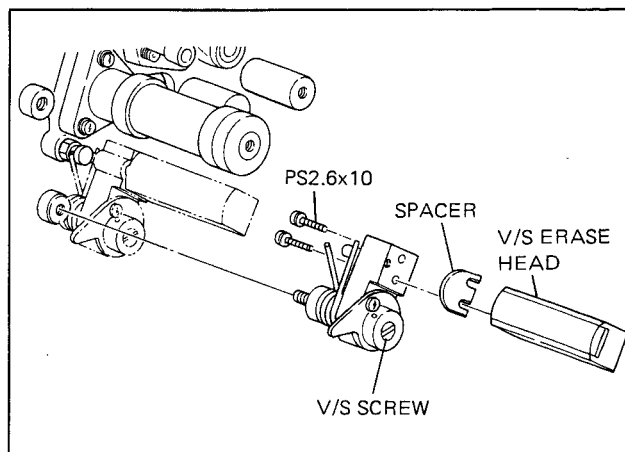

Fig. 3-101. V/S Erase Head Height Adjustment
- Mount V/S erase head assy referring to Fig. 3-101, and check the height of V/S erase head by performing Steps 1 to 4 again.